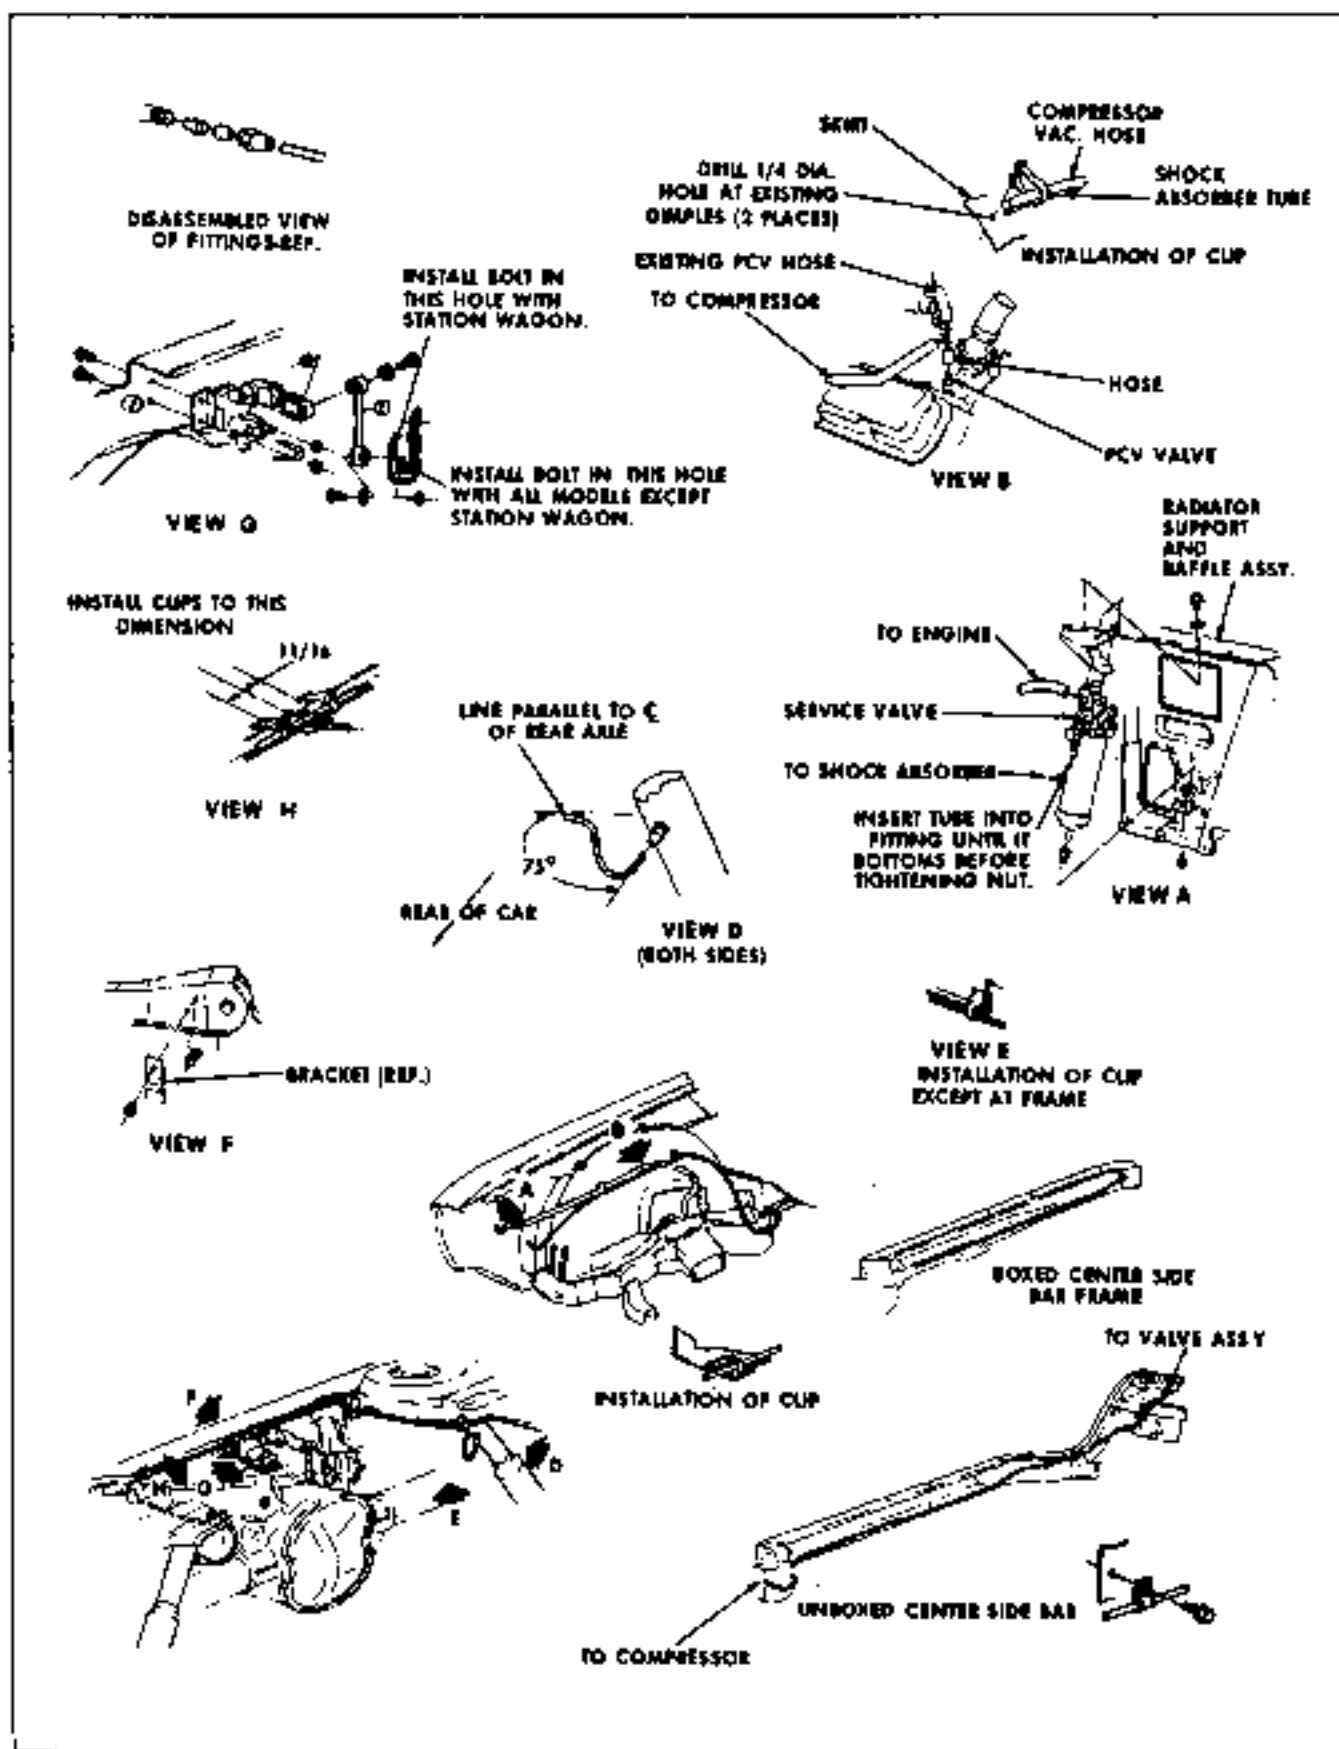

Fig. 4-12 Pontiac Automatic Level Control System
1. Deflate system through service valve (Figs. 4-12 and 4-13).